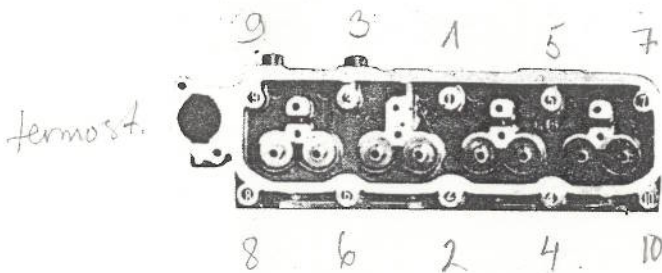

Fig. 4-40
- (1) Fully coat the both sides of the cylinder head gasket with jointing compound and fit the gasket to the cylinder body and then mount the cylinder head over the gasket.
- (2) The cylinder head clamping bolts should be tightened in the sequence illustrated in Fig. 4-40 in the following manner.